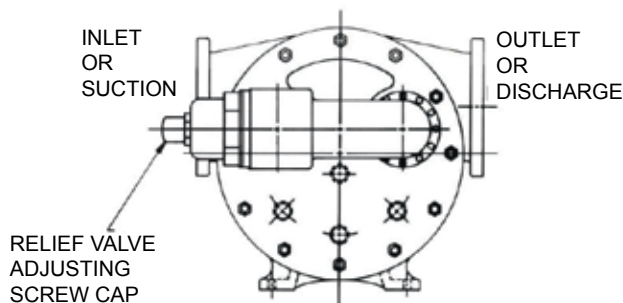

FIGURE 2
4. The relief valve adjusting screw cap must always point towards suction side of pump. If pump rotation is reversed, remove the pressure relief valve and turn end for end. Refer to Figure 2.
If the relief valve was not removed from head, install on head with adjusting screw cap pointed toward the suction port. Refer to Figure 2, page 2. For **PRESSURE RELIEF INSTRUCTIONS**, refer to page 14.